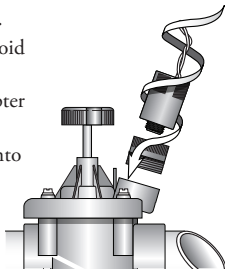

Figure 1
3. Screw in the included adapter (if necessary) (Figure 1).
4. Screw the Toro solenoid onto the adapter (Figure 1).
(See Figure 1.)